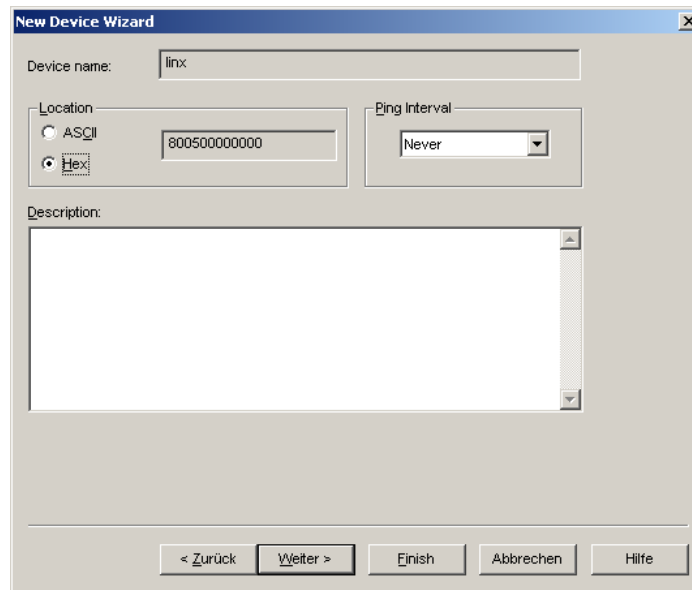

Figure 157: Leave defaults for Location.
5. The following dialog shown in Figure 157 appears, click **Next**.